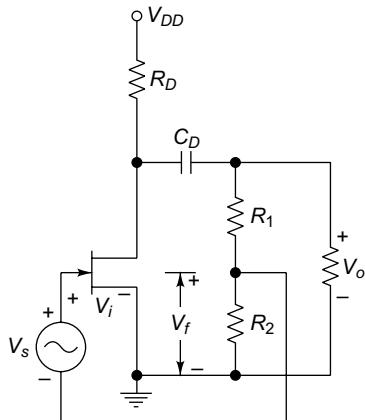
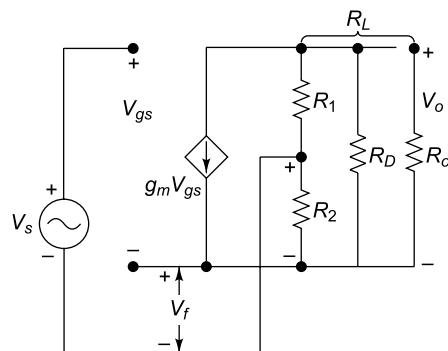

Fig. 2.27 FET amplifier
Fig. 2.28 Equivalent circuit of FET amplifier
Figure 2.27 shows an FET amplifier circuit with voltage-series feedback. A part of
output voltage can be feedback using a voltage divider circuit which consists of resistors R_1 and R_2 . The feedback voltage is connected in series with source signal V_s . The mid-frequency small signal model of Fig. 2.27 is depicted in Fig. 2.28.
2.15 Determine the overall loop gain of FET amplifier circuit as depicted in Fig. 2.27 with the following parameters $g_m = 1000 \mu\text{s}$, $R_1 = 20 \text{ k}\Omega$, $R_2 = 10 \text{ k}\Omega$, $R_o = 15 \text{ k}\Omega$ and $R_D = 10 \text{ k}\Omega$.